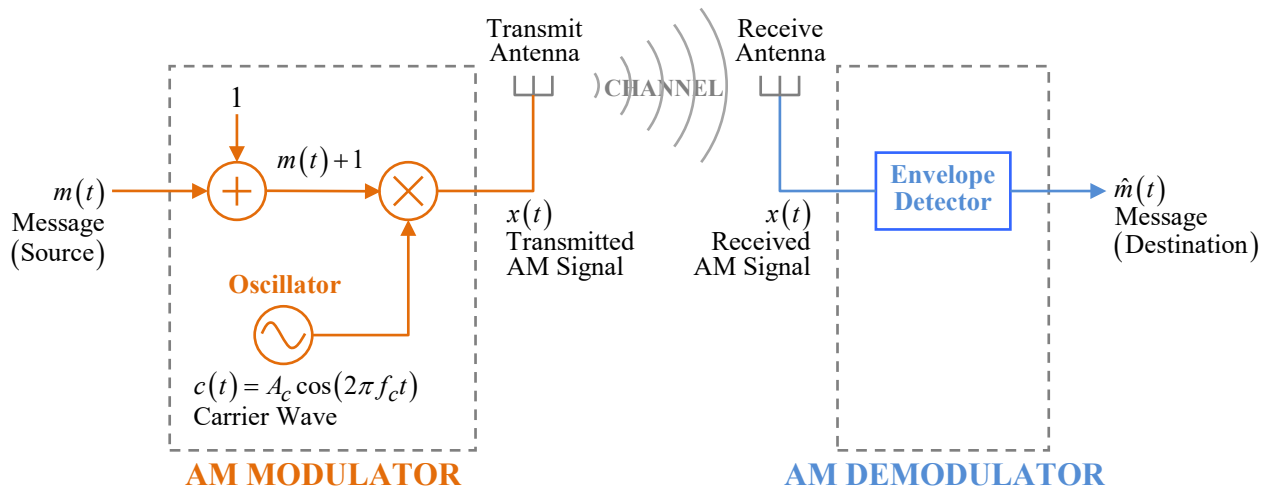

Figure 1: AM transmission system
Suppose the carrier wave, $c(t)$, is the sinusoid $c(t) = A_c \sin(2\pi f_c t + \varphi)$. The carrier wave has 3 parameters, A_c , f_c and φ_c , which are, respectively, called the amplitude, frequency and phase of the sinusoid. The message signal, $m(t)$, can alter any of these 3 parameters to produce a corresponding modulated carrier signal for transmission. Consequently, there are at least 3 modulation schemes. This project focuses on **Amplitude Modulation** (AM) where $m(t)$ is used to alter the amplitude of $c(t)$. The block diagram of an AM transmission system is shown in Figure 1.
In the mini-project, your team will design and implement the AM modulator and AM demodulator blocks shown in Figure 1. Besides providing exposure to one of the popular modulation techniques, another objective of this exercise is to reinforce circuit design/implementation skills and confidence in using emerging portable electronic engineering instrument -- Analog Discovery 2 (AD 2).